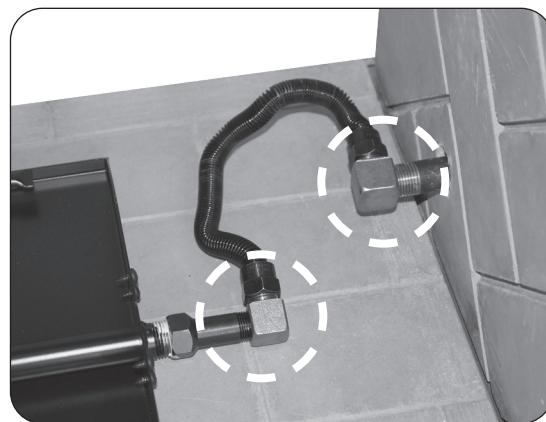

Fig. 10-3 Perform leak test
6. **LEAKTEST:** Follow the appropriate LIGHTING INSTRUCTIONS for your model to ignite the burner. Test at all connections for leaks using the appropriate soapy water solution. See Fig. 10-3. If bubbles appear, a leak is present. Turn off the gas and tighten at all connections. Repeat until no leaks are present. If a leak persists, turn off the gas supply and contact the local gas company or dealer. NEVER USE A FLAME TO CHECK FOR LEAKS.